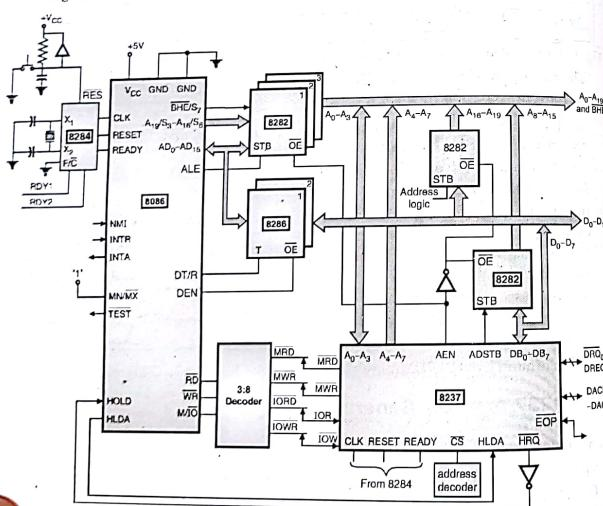

Fig. 17.10.1 : Interfacing of 8086 with 8237
- Fig. 17.10.1 shows the interfacing of 8237 with 8086.
- Address generated by 8237 is only 16-bit; $A_0 - A_3$ is directly connected, $A_4 - A_7$ is also directly connected while $A_8 - A_{15}$ is demultiplexed from DB_0 to DB_7 as shown in the Fig. 17.10.1.